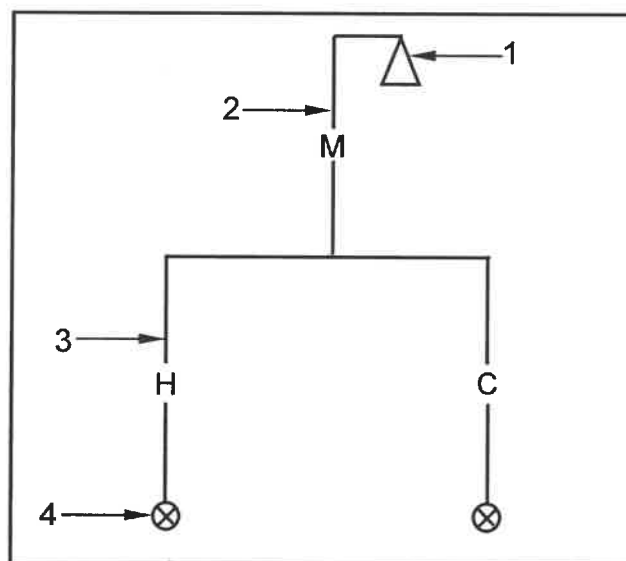

FIGURE 3.5
- 3.5 Use the information in FIGURE 3.5 below and take off the quantities of materials needed as indicated in the table below. Write only the answer next to the question numbers (3.5.1 to 3.5.6) in the ANSWER BOOK, e.g. 3.5.7 Basin.